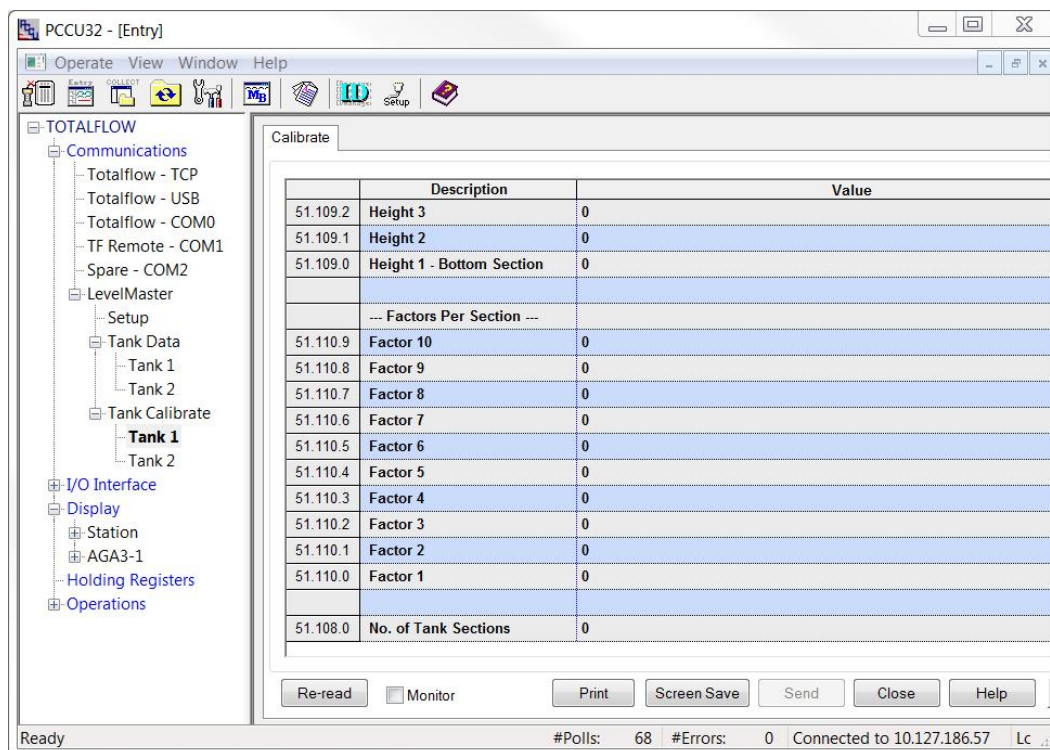

Figure 57: Configuring the strapping table
3. On the **Calibrate** tab, scroll down to locate the No. of Tank Sections (Figure 57). The default is set to 0.